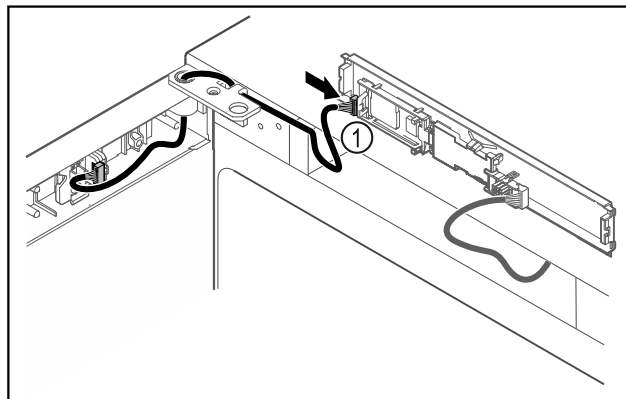

Fig. 49
- ▶ Connect the plug Fig. 49 (1) to the circuit board.